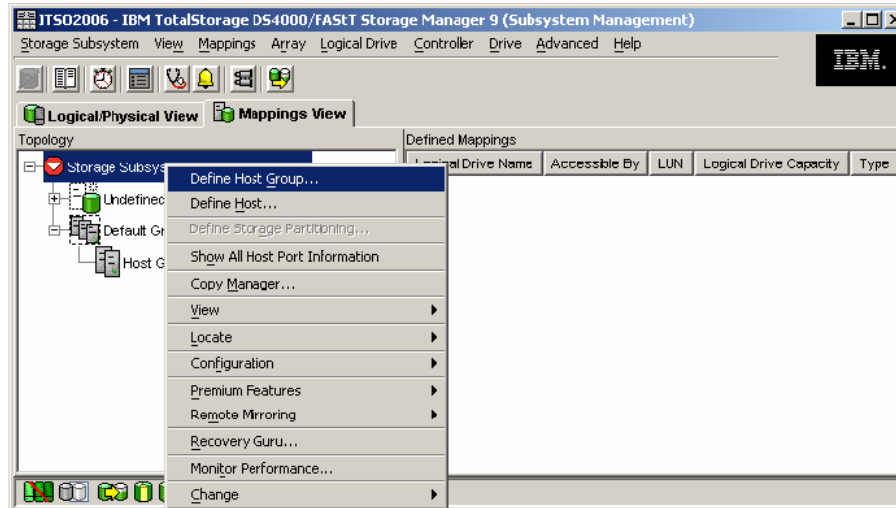

Figure 5-73 Define host group
1. View and right-click the storage subsystem icon (Figure 5-73) to define a Host Group. The Host Group name and how you group are your choices.